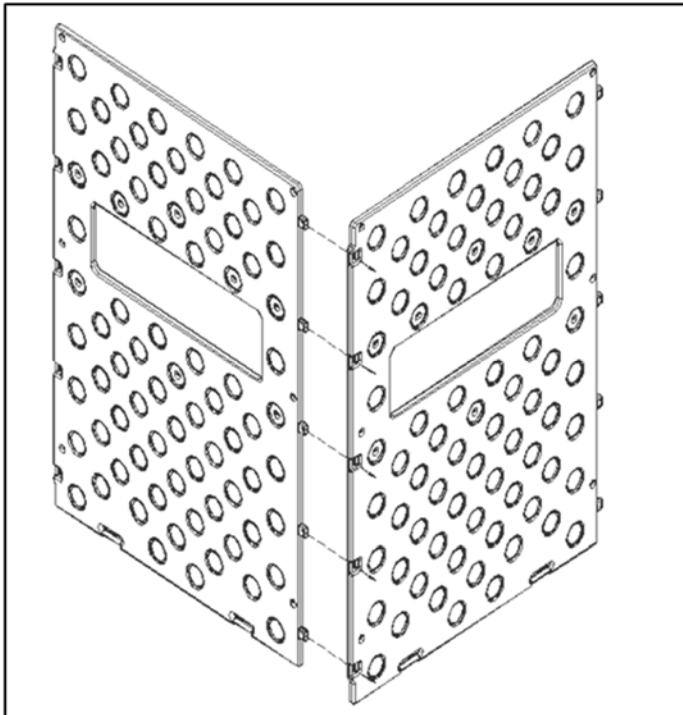
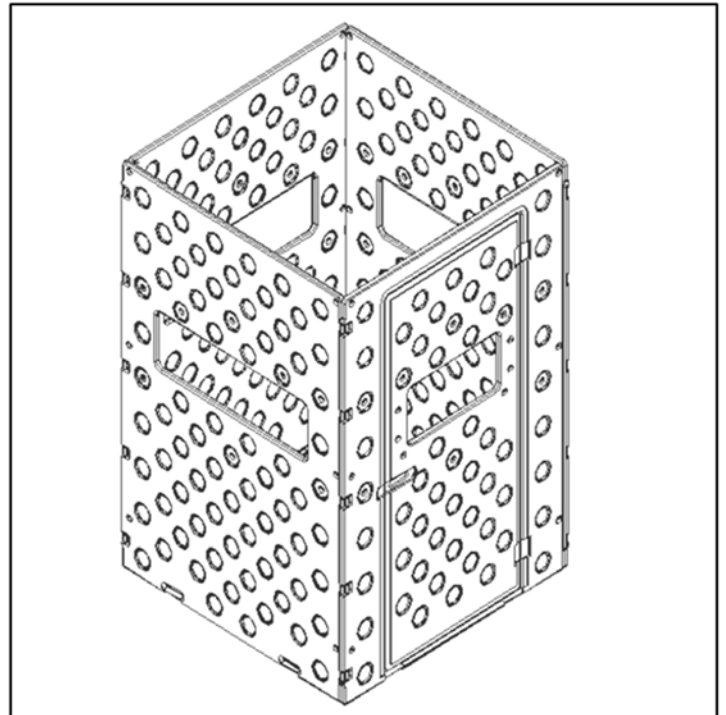

Fig 5– Align & Snap together panels
Fig6 – Assembled Panels
Step 2. Join the first two wall panels by aligning the five pins of one panel to the five sockets of another and press to snap panels together (see fig 5). Repeat to adjoin all four wall panels of Blind (see fig 6).